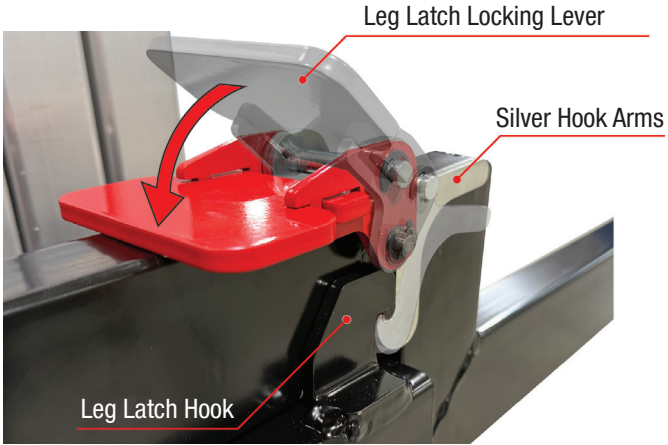

Figure 7-10: Locking Legs In Place
3. When each leg is fully lowered, press the silver hook arms down to position the silver hooks with the leg latch hooks. Lock legs in place by pressing down the red leg latch locking lever until it fully engages the latch hooks and the lever lays flat against the leg tube (see Figure 7-10).